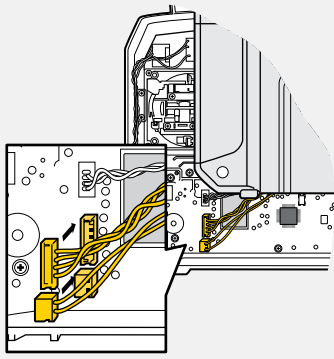

Fig. 20
11. Re-connect the cables (see [Fig. 20]).